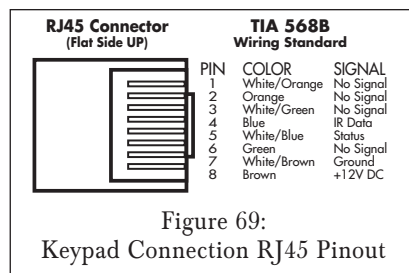

Figure 69:
2. Terminate each CAT5 cable with RJ45 connectors on the DAB1 end. Follow the TIA 568B wiring standard (see *Figure 69*).